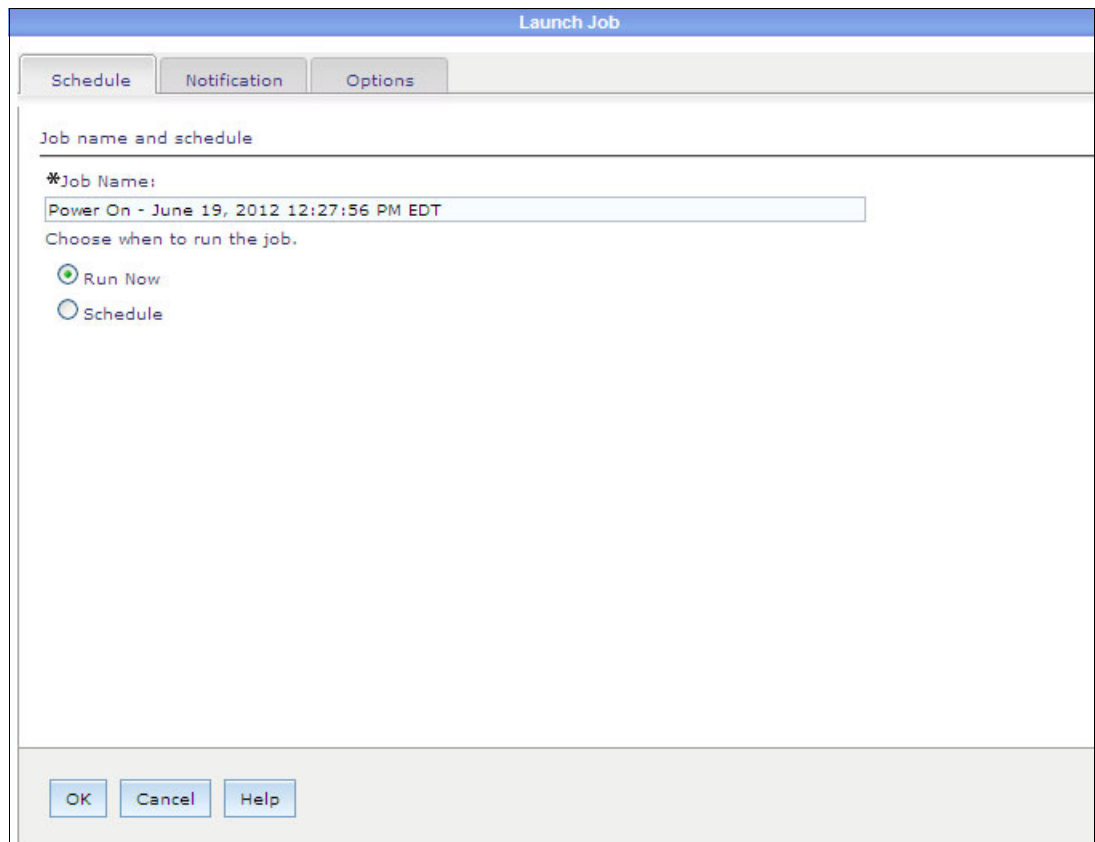

Figure 11-21 Power On Launch Job window
21. Click **OK** to start the Power On job immediately as shown in Figure 11-21.